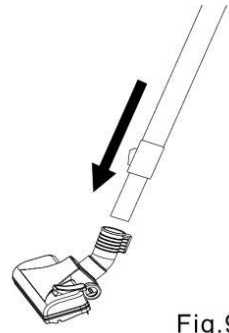

Fig.9
Step 9: Insert the end of the extension tube into the floor brush (Fig. 9). Make sure the brush is tightly attached to the tube.